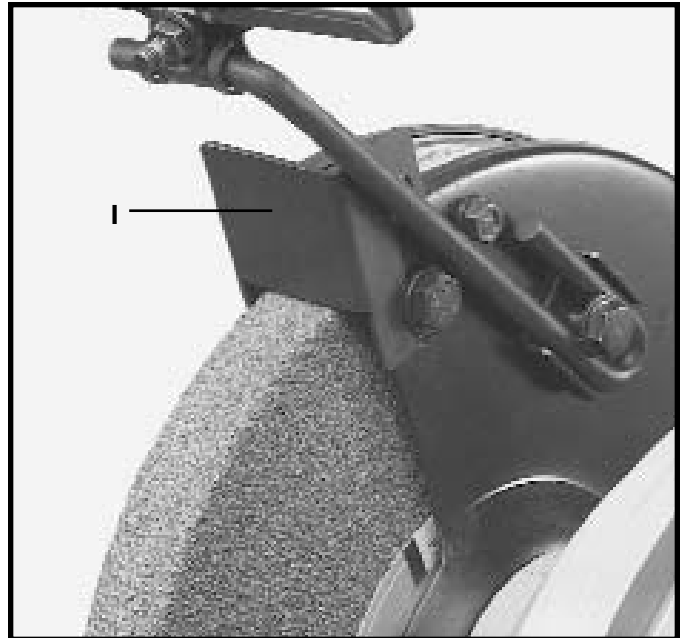

Fig. 5
The spark guard (I) Fig. 5, is to be mounted to the side of each wheel guard, using one bolt (4) Fig. 2, and one washer (8) Fig. 2 as shown. The spark guard (I) should be adjusted as close as possible to the grinding wheel so that sparks never strike the operator's hand. As the wheels wear down, the spark guard (I) should be adjusted accordingly.